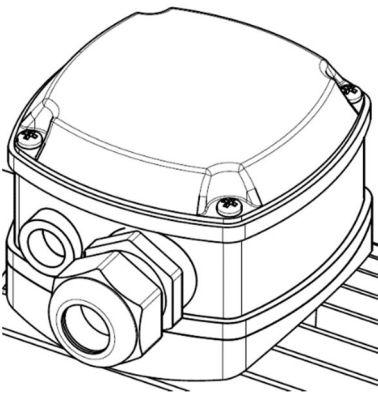

Fig. 7 Threaded cable connection
- The electrical connection must be established via a fixed mains connection cable (cross-section to be complied with, see Tab. 6). Route the mains connection cable through the corresponding M20 or M25 or M32 threaded cable connection (Fig. 7).